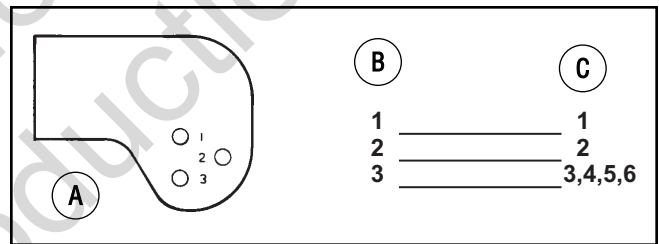

Figure 34: Gauge wheel bracket positions
3. Look at each **gauge wheel bracket**. There are 3 holes in each bracket and a number next to each hole. The number for the height of cut position on the **deck lift lever** indicates the correct hole to use on each **gauge wheel bracket** (Figure 34).
4. Assemble the axle bolts to the **gauge wheel brackets** using the correct hole in the bracket as indicated (Figure 34).
**NOTE:** If the height of cut position is changed by the deck lift lever, you must move the gauge wheels to the correct hole (Figure 34) to keep a level height of cut.